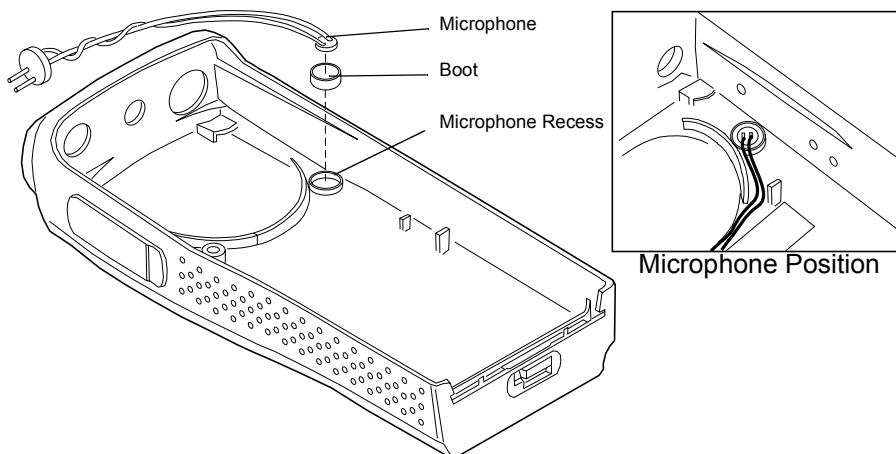

Figure 8-10. Microphone Re-assembly
3. Insert the Boot and microphone sub-assembly into the microphone recess in the housing and route the wires as shown in Figure 8-10.